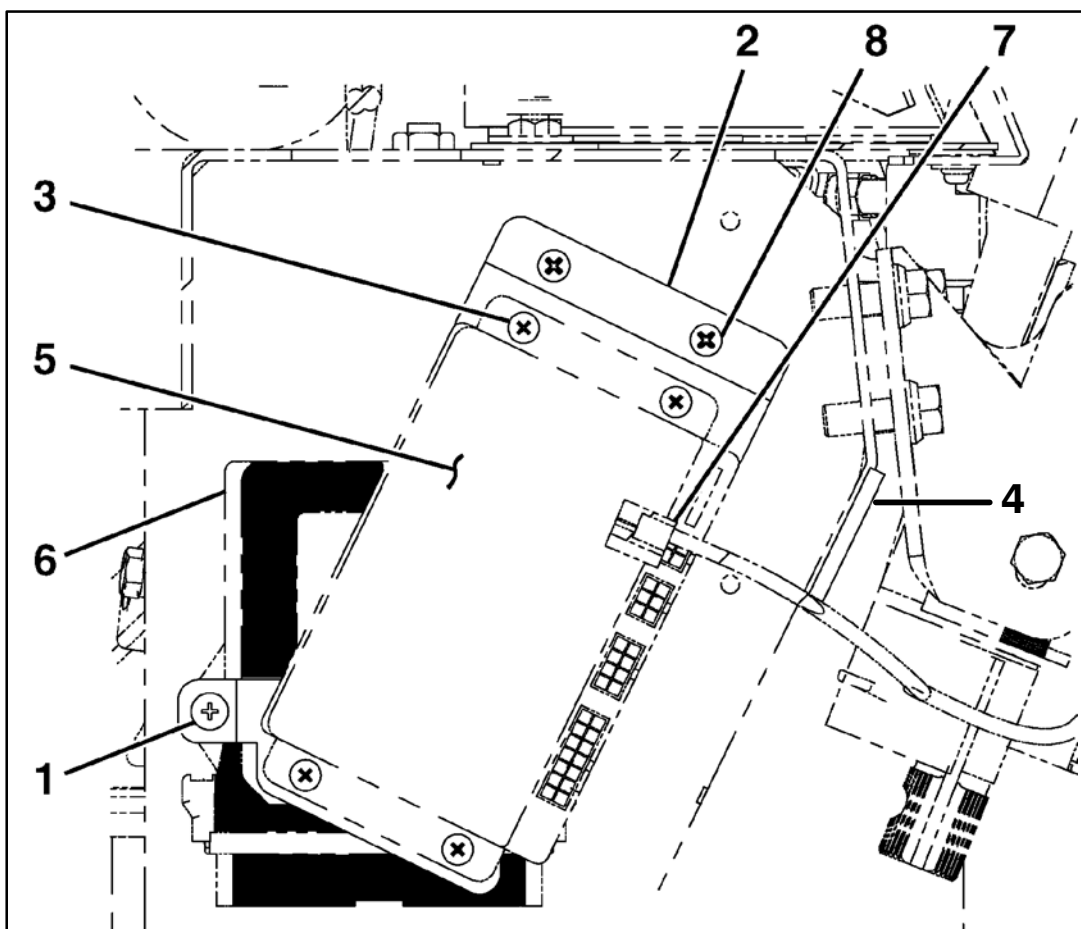

Figure 12.
25. Disconnect the steer angle sensor (SAS) connector (refer to Figure 12).
30. Remove and discard the existing screws that mount the pocket gateway to the steering column bracket. Using screws, p/n 19-1-583, and the existing pocket gateway mounting holes, mount the bottom bracket, p/n 07-08-3732, on top of the pocket gateway onto the LH (roadside) of the steering column bracket (refer to Figure 12).
32. Cut to length and install trimlock, p/n 21-7201-10, on bracket edge as shown in Figure 12.